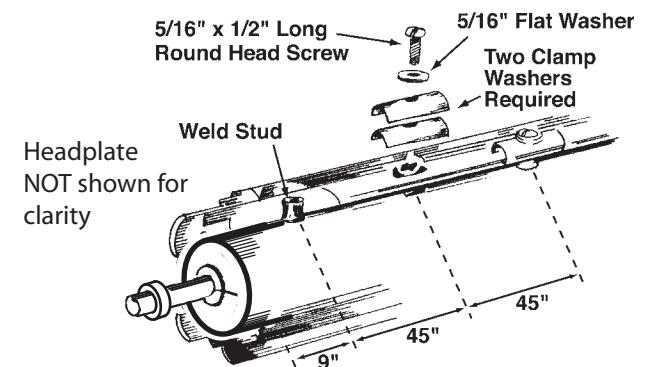

Figure 25
- If the barrel has studs, the top slat will have slots to attach to barrel. Hook curtain over studs and fasten with 5/16" round head screws and washers and TWO clamp washers provided. See Figure 25.